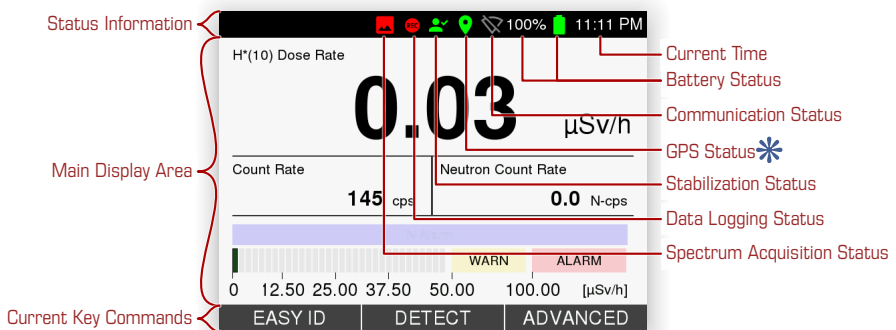
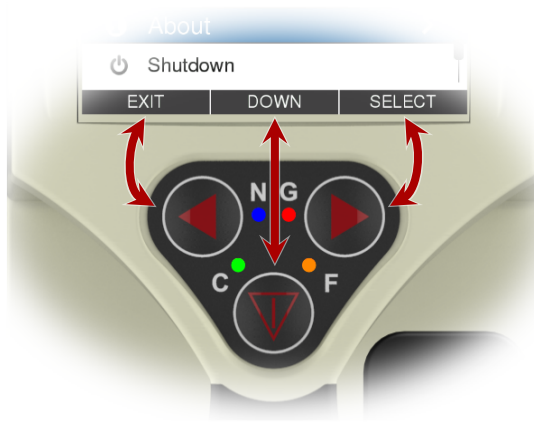

Figure 8: Anatomy of the RADEAGLE display
Figure 9: The current functions of keys shown along the bottom of the RAD EAGLE display.
The RADEAGLE displays information on a color LCD screen (Fig. 1, p. 14) divided into three principle areas (Fig. 8, p. 21).
The labels in this area name the function currently associated with each of the RAD EAGLE keys (Fig. 8, p. 21, Fig. 9, p. 24).
Alarm and battery status LEDs are built into the keyboard of the RAD EAGLE (Fig. 1, p. 14, Fig. 9, p. 24).
The meaning of every key changes depending on the circumstances. The current function of the keys is shown along the bottom of the screen (Fig. 9, p. 24) at all times. Almost, exceptions are: Switching on the RAD EAGLE (see 2.3, p. 29) and taking screenshots (see 2.2.5, p. 28).
3. Press and hold down the  key (Fig. 9, p. 24). (Ensure the battery slide switch behind the latch (Fig. 2a, p. 15) is in the top position “ON”.)